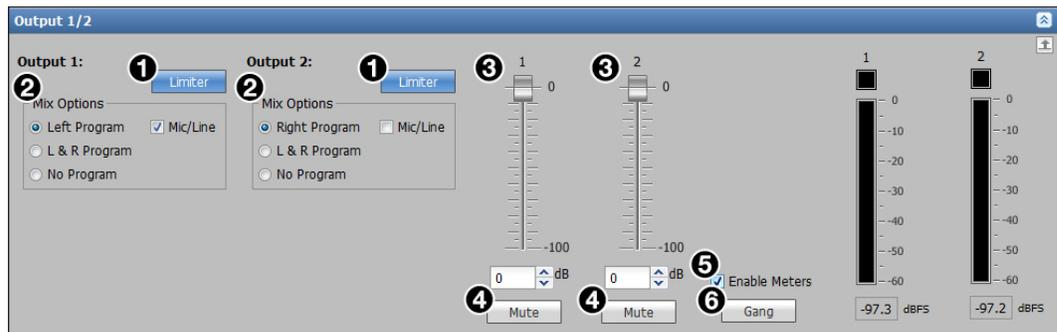

Figure 71. Analog Audio Panel 1/2 Section
2. If desired, deselect the **Mic/Line** checkbox in the **Mix Options** panel (see figures 71 and 72, 2, on the previous page) to not include the mic/line inputs in the amplified output (this is selected by default).
3. In the **Mix Options** panel (see **figures 71 and 72, 2**, on page 113), click the desired radio button. The amplifier models have different options based on the type of amplified audio output connector.